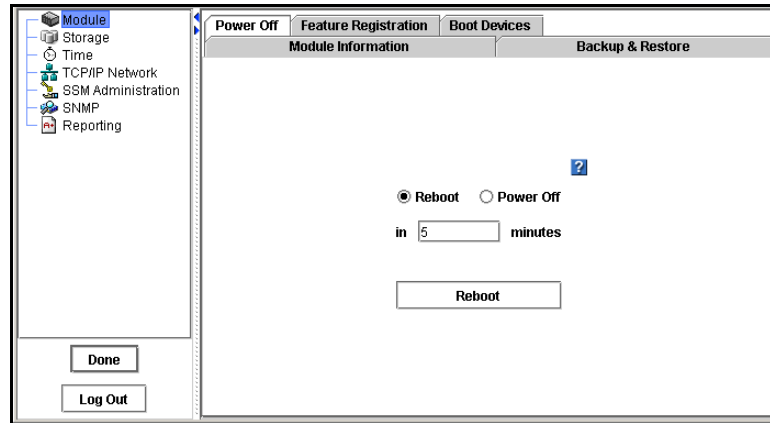

Figure 43. Canceling the ssm Reboot
1. When you click OK, the Reboot button changes to Cancel, as shown in Figure 43.